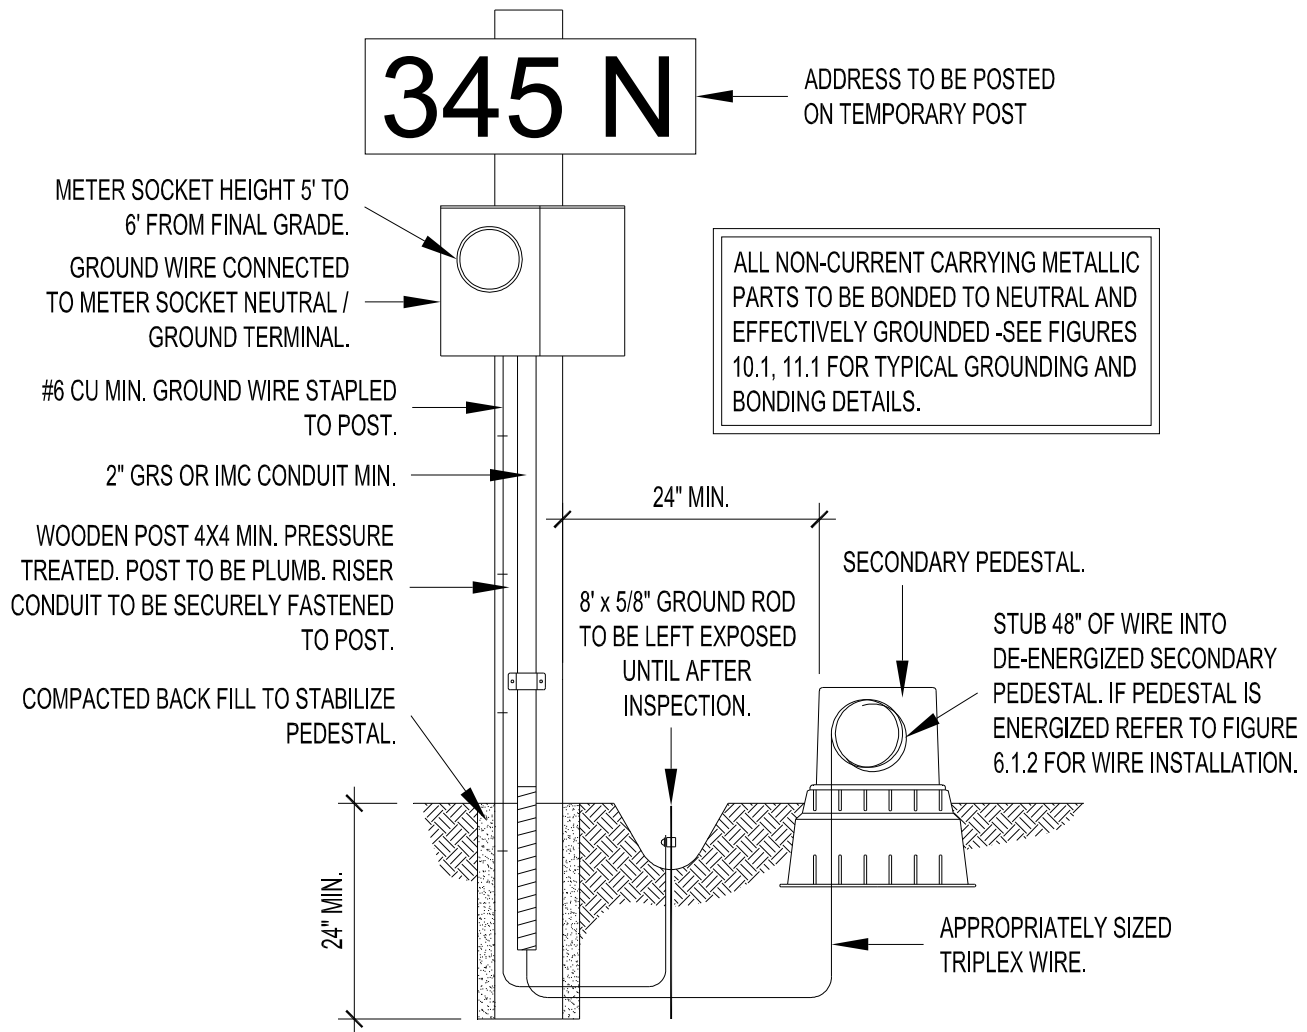

Figure 2.1 Underground Temporary Power
- 1.1.2 Provo City requires owner\builder to supply and install temporary power pole including meter base, disconnects and outlets. (see Figures 2.1 or 3.1)